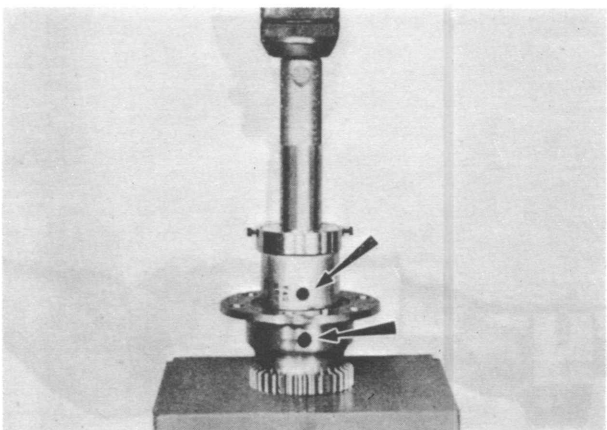

Fig. 1-42 Installing main bearing
5. Attach the adapter on the main bearing puller and installer and use it to press the bearing into the gear until the adapter touches the gear flange. **Be sure to match the oil holes** of bearing and gear, as shown in Fig. 1-42.